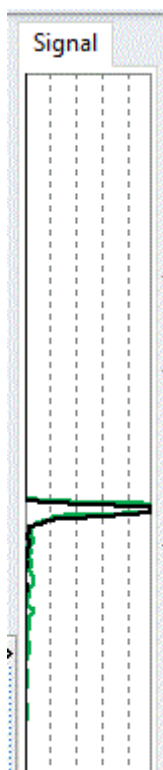

Figure 8: Signal window
To optimize the gain settings, you should use the signal amplitude shown in the home screen signal window (Figure 8), which is divided by four lines. Thus, each of the five sections represent 20 percent of full scale (FS). Best is to maintain a maximum amplitude of 60 – 80% FS. This gives space for sudden peaks and ensures a good dynamic range, see below.